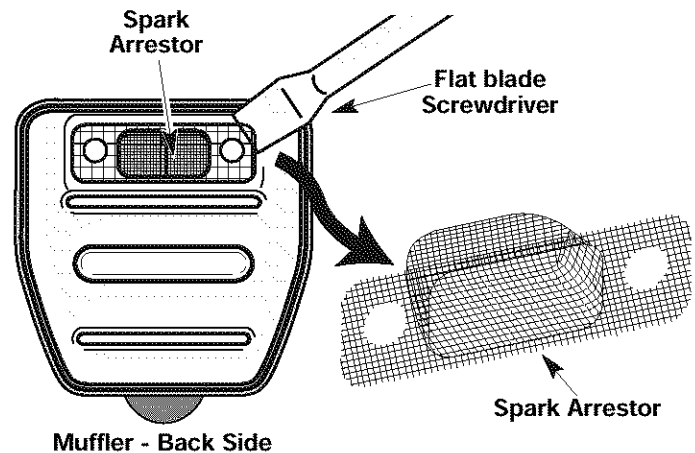

Fig. 42
- Using a small flat blade screwdriver, carefully pry up the spark arrestor from the recessed hole (Fig. 42). Remove spark arrestor from muffler.
- Clean the spark arrestor with a wire brush. Replace if damaged or unable to clean thoroughly (Fig. 42).